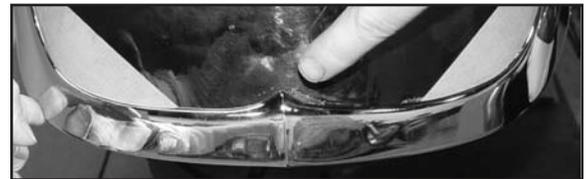

Figure 1 (Stock installation photo)
1. Carefully, position the Rear Fender Tip on the fender, make sure the Tip is centered on the fender. **Figure 1**